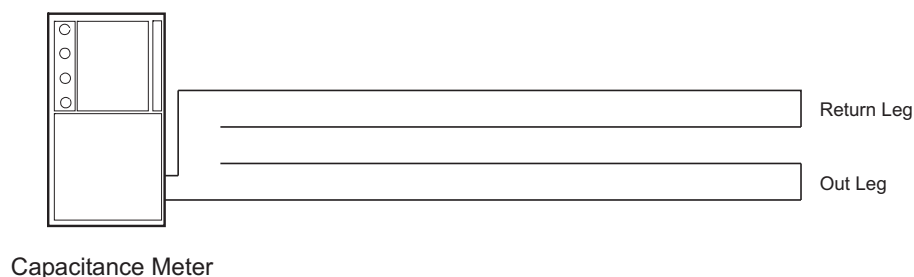

Figure 2-28. Measuring CLASS-A SLC Wiring Capacitance
1. Measure the capacitance using the wiring that will connect to control unit terminals J19-1 and J19-3 (Terminals J19-2 and J19-4 **MUST** remain disconnected from the control unit) as shown in Figure 2-28.